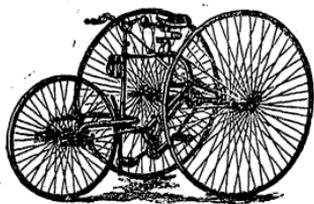

Fig. 28.—The Quadrant (1884).
about 12 inches apart. This was a distinct advance on the Greyhound, and really years before its time, as the merits of its design with large frontal wheel (see Fig. 28) did not meet
*Frame-steerers* are confined to two patterns—the Quadrant (Quadrant Tricycle Co.), and the Crescent (Rudge Cycle Co., Limited). In these the direct steering is broken, and the pilot wheel is guided by the frame-work carrying it (see Fig. 28, p. 47). This gives the front wheel, owing to the absence of upright forks, rather a run-away look, and the steering is not so sensitive as the free wheel of a Direct to the disturbing influence of the road, although the machines can be guided to a nicety, and the rudder requires less attention. A luggage-frame, capable of carrying a good load, can be fixed over the front wheel; in other details the Frame-steerer is identical with the Direct Steerer.